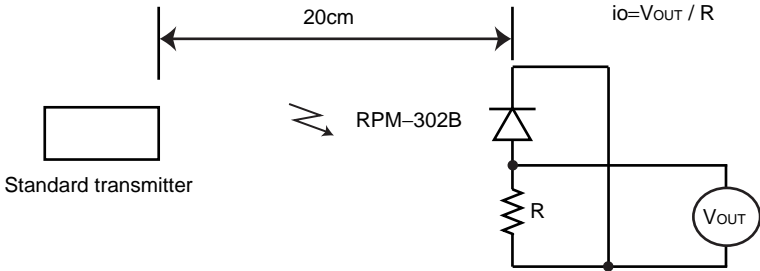

Fig.2 Measurement of standard transmitter proof reading.
*1 The burst wave form mentioned in Fig.1 is to be transmitted from standard transmitter(Fig.2) Measure 10th or later pulse width after beginning of transmission.
When standard transmitter output the signal at Fig.1 standard photodiode output become $i_o=5\mu\text{A}$ under the measurement condition Fig.2.